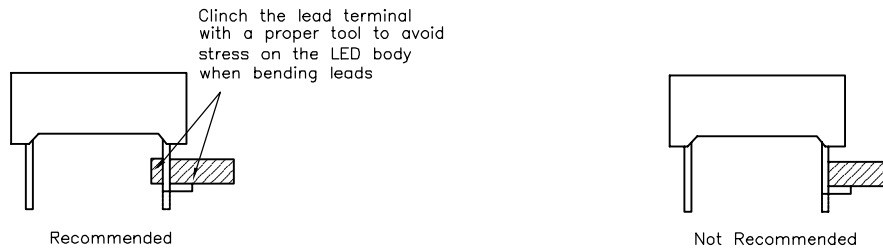

Fig. 9
4. Lead forming should only be done with proper tools such as a jig and/or radio pliers. The upper section of the leads should be secured firmly such that the bending force is not exerted on the LED body. Refer to below diagram (Fig. 9) for recommended lead bending method.